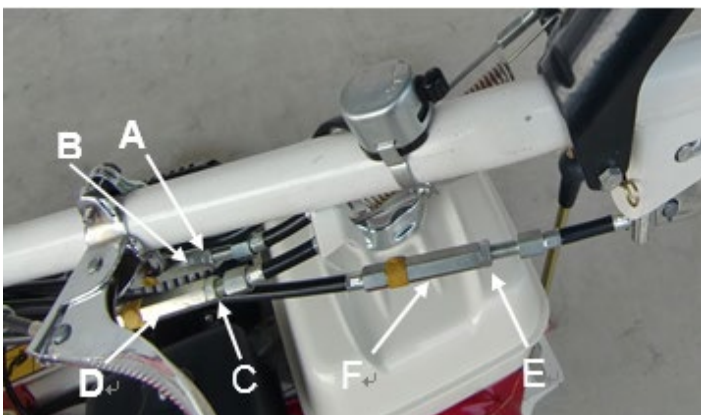

Figure 16
- If the machine does not stop when the drive clutch lever is released, adjust the tension wire as follow : unscrew the locking screw (A, Figure 16) and unscrew the nut (B, Figure 16). Try the machine again. Perform the adjustment again if needed. When the adjustment is performed, screw the locking screw (A, Figure 16) on the nut (B, Figure 16).
- If the machine does not move when driving clutch lever is pressed, adjust the tension wire as follow : unscrew the locking screw (C, Figure 16) and unscrew the nut (D, Figure 16). Try the machine again. Perform the adjustment again if needed. When the adjustment is performed, screw the locking screw (C, Figure 16) on the nut (D, Figure 16).
- Unscrew locking nut (E, Figures 16,17).